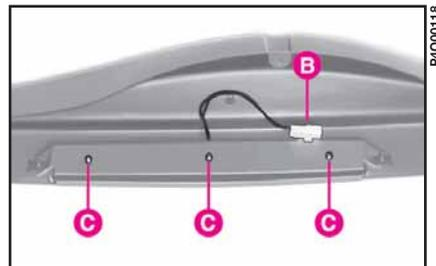

fig. 32
2) disconnect the connection **B**-fig. 32 and loosen the three screws **C** fastening the light cluster;